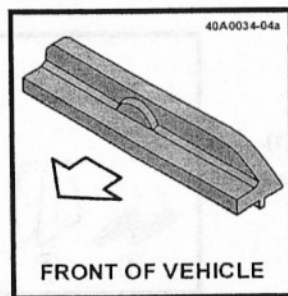

FIGURE 4a
6. From the rear of the vehicle, slide the Roll Hoop Panel Bracket ① under the Roll Hoop Panel and gently work the bracket forward until the tongue on the bottom of the Roll Hoop Panel Bracket fits into the groove under the roll hoop. The half round protrusion on the Roll Hoop Panel Bracket will align with the half round notch in the bottom of the Roll Hoop Panel (FIGURES 4a & 4b). If you experience difficulty installing the bracket, place the bracket in the freezer for 10-15 minutes to stiffen the rubber.